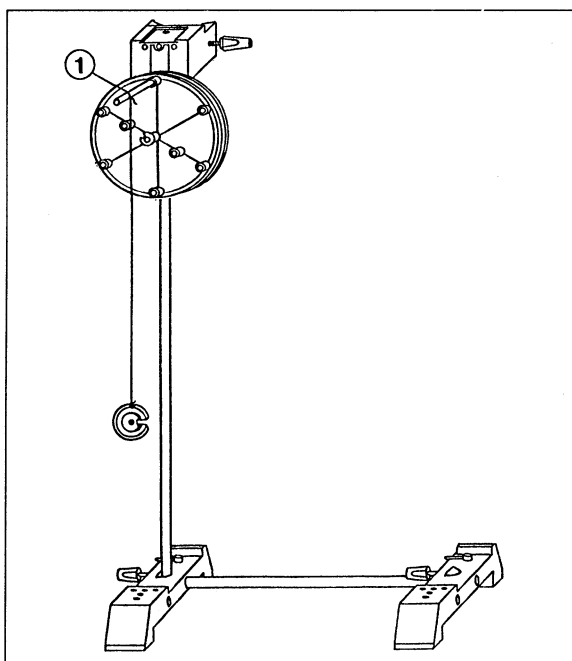
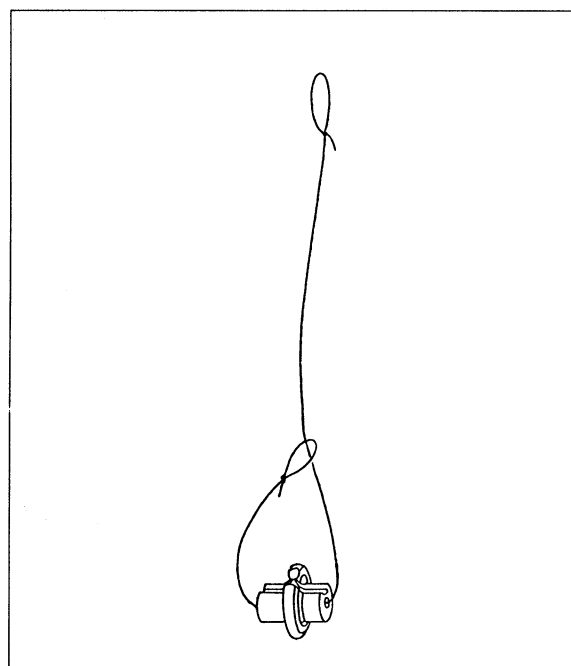

Fig. 1 Setup for experiment to determine the centre of gravity using a plumb line
Fig. 2 How to go about making a plumb line
1. Set up the apparatus as shown in fig. 1.
2. Push the large pulley onto the knockout spindle (1).
3. Prepare a plumb line as shown in fig. 2 and hang it from the spindle.